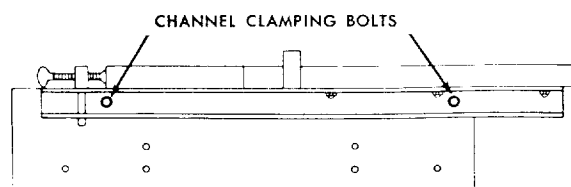

Figure 10
3. Loosen channel clamping bolts (figure 10) if they are not already loose.
3. Tighten both channel clamping bolts (Fig. 10) at front of base until they are snug (use wrench but do not pull up solid.) Tighten channel clamping bolts at back of base only to a finger tightness.